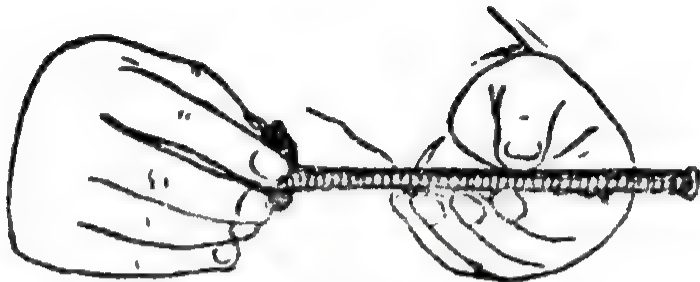

Figure 42. How to put the buffer onto the mainspring guide.
- 1 Insert the buffer into the recoil spring until the flat side is against the spring's base plate (Figure 42).